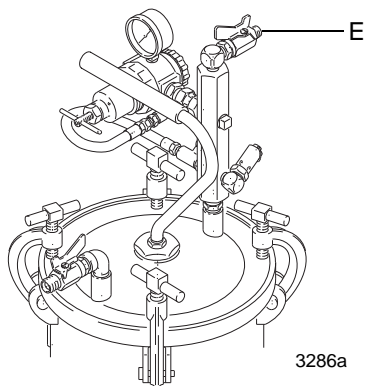

FIG. 2
1. Shut off the air supply to the tank by closing the air inlet valve (15). Refer to FIG. 2.
See FIG. 2 Connect an air supply hose to the 1/4 npt(m) air inlet valve (15) and your air supply. Install an air regulator and filter (G) upstream from the air inlet valve to remove dirt and moisture from your air supply. See **Accessories** on page 22. Connect a fluid hose (E) between the 3/8 npt(m) outlet valve (K) and the fluid inlet of your spray gun.
(See FIG. 2)
A safety relief valve (12) will automatically relieve the tank pressure when the air pressure exceeds 95 to 100 psi (0.5 to 0.6 MPa, 6.5 to 7 bar). Refer to FIG. 2 or the parts drawings.